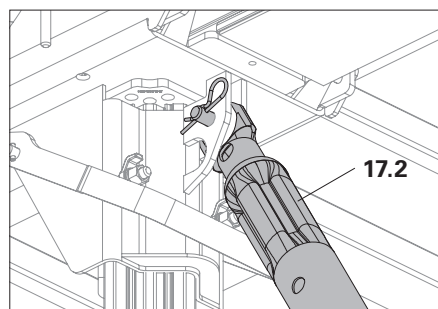
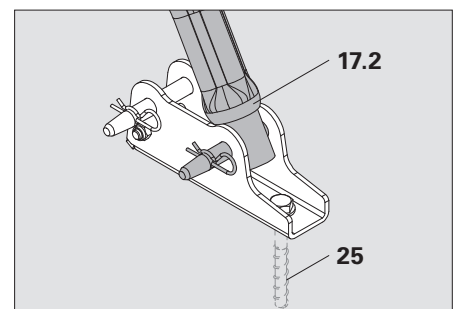

Fig. A4.04a
Fig. A4.04b
- Push-Pull Prop RS (17.2), tension- and compression-proof, with Bolt  $\varnothing$  16 x 42, Bolt  $\varnothing$  20 x 140, Cotter Pin 4/1 and Base Plate-2 for RS (18).
- (Fig. A4.04a + Fig. A4.04b)